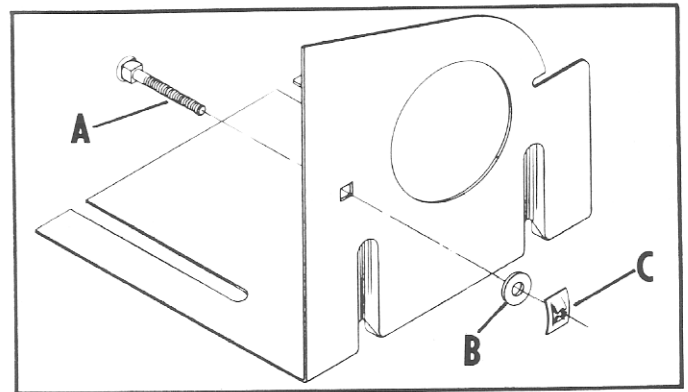

Fig. 8
4. Assemble the carriage bolt (A) to the belt and pulley guard bracket, using the 11/32" flat washer (B) and Tinnerman nut (C), as shown in Fig. 8.